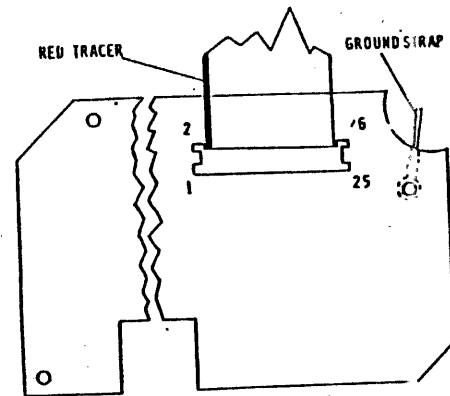

Figure 3-28
4. Remove 10 MB disc drive cover by removing (3) screws securing cover to casting.
5. Disconnect flat ribbon connector from stepper PWA. (figure 3-28).
6. Remove (3) screws securing stepper PWA to casting.
7. Remove stepper PWA. (See Figure 3-28).
2. Replace ground strap and (3) screw stepper PWA to casting. (Fig. 3-28)
4. Replace disc cover and the (3) screws.